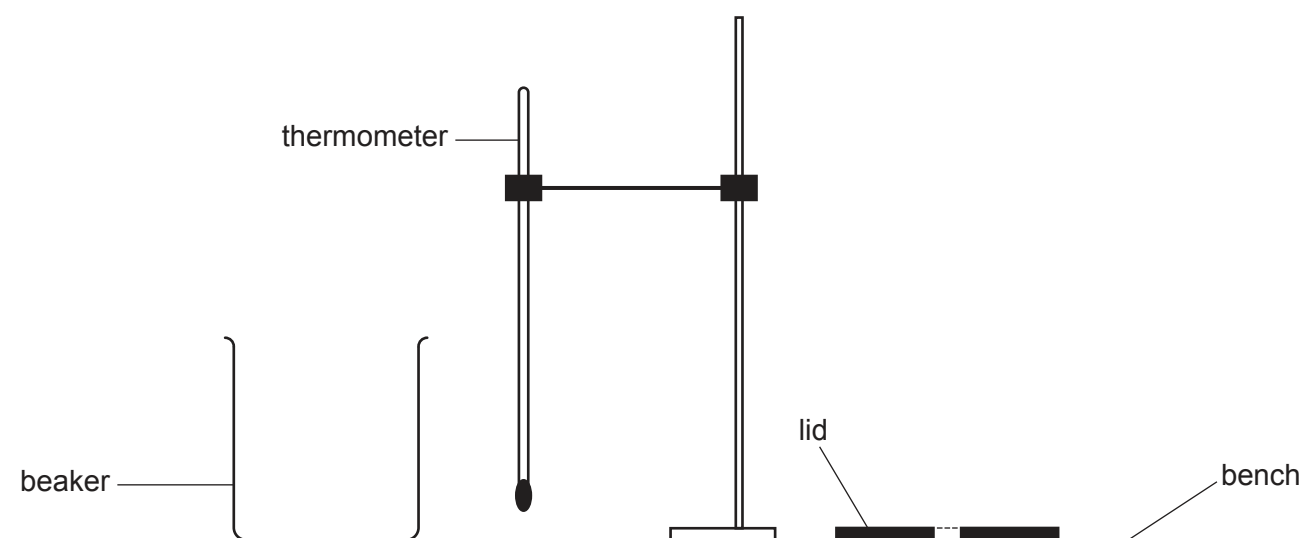

Fig. 2.1
1. The thermometer, clamp, boss and stand are to be set up for candidates as shown in Fig. 2.1. The thermometer bulb must be below the 100 cm3 level of the beaker. Candidates must be able, easily and safely, to read temperatures up to 100 °C and to move the thermometer in and out of the beaker.
4. The lid can be made from cardboard. It must have a hole at the centre to accept the thermometer. See Fig. 2.1.